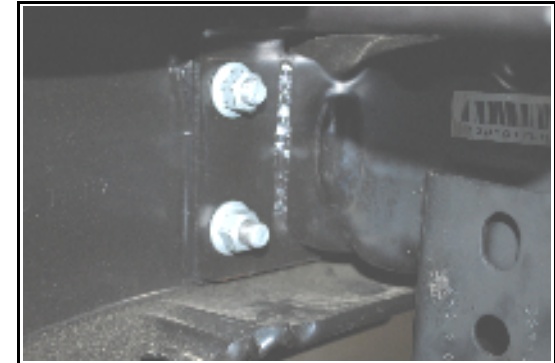

Figure 1
Step 1 - Remove Stock bumper by unbolting the eight (8) 18mm nuts from backside of bumper. Nuts are located on the inside and outside of frame rails (See Figure 1 - Outside frame rails shown) Say goodbye to that flimsy plastic stock bumper.